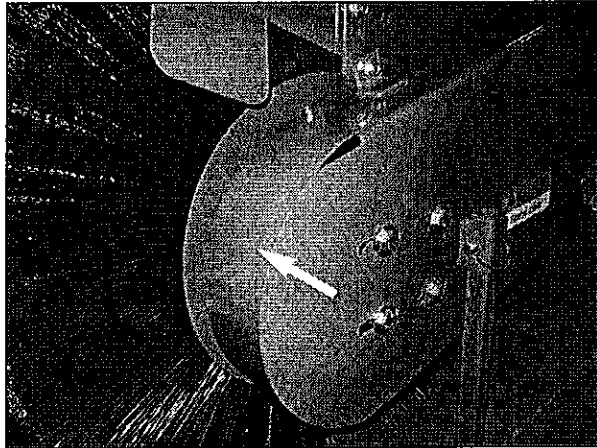

Figure 24
1. Remove the rear chain shield (Figure 24).
2. Loosen, but do not remove the four (4) bolts securing the 4 bolt bearings on both ends of the brush head assembly (Figures 24 and 25).
4. Tighten the four (4) bolts on the chain end of the brush head. (Right hand end, Figure 24).